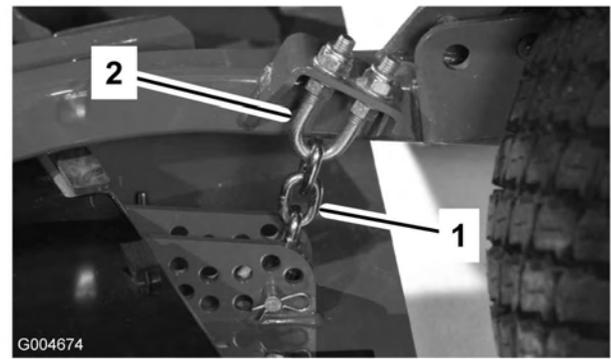

Figure 86
1. Loosen the jam nuts on the top or bottom of the height-of-cut chain U-bolt (Figure 86).